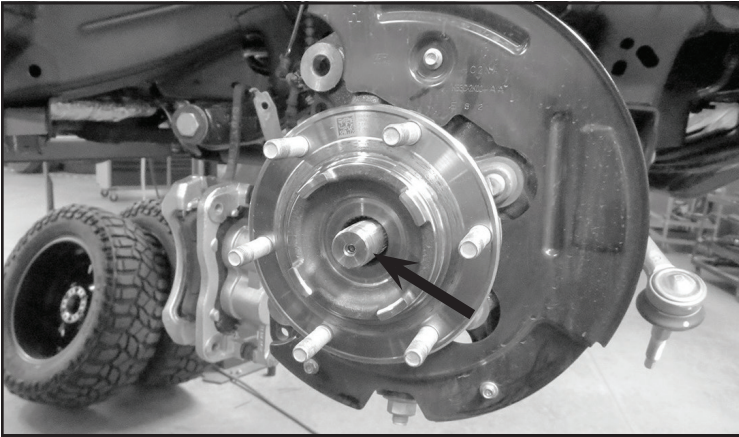

FIGURE 6 - STEP 6
8. Remove the CV axle nut and save. **SEE FIGURE 6**